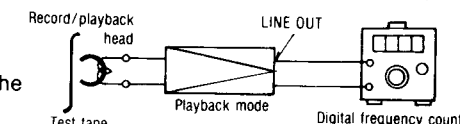

Fig. 7
- Test equipment connection is shown in fig. 7.